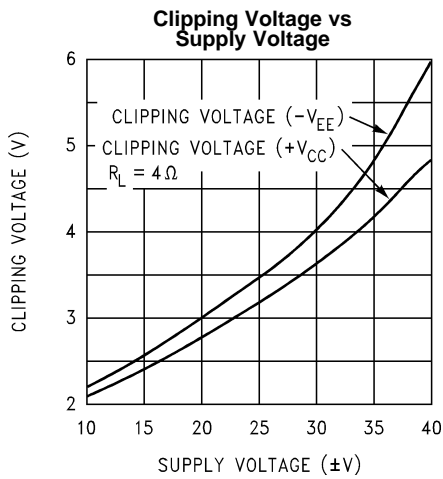

Figure 14.
- (1) All voltages are measured with respect to the GND pin (pin 7), unless otherwise specified.
- (2) Absolute Maximum Ratings indicate limits beyond which damage to the device may occur. Operating Ratings indicate conditions for which the device is functional. Electrical Characteristics state DC and AC electrical specifications under particular test conditions and specific performance limits. This assumes that the device is within the Operating Ratings. The typical value is a good indication of device performance.
- (3) Typicals are measured at 25°C and represent the parametric norm.
- (4) Limits are specified to AOQL (Average Outgoing Quality Level).
- (5) V^- must have at least -9V at its pin with reference to ground in order for the under-voltage protection circuitry to be disabled.
- (6) AC Electrical Test; refer to Test Circuit #2 - AC Electrical Test Circuit.
- (7) The feedback compensation network limits the bandwidth of the closed-loop response and so the slew rate will be reduced due to the high frequency roll-off. Without feedback compensation, the slew rate is typically larger.
- (8) DC Electrical Test; refer to Test Circuit #1- DC Electrical Test Circuit.
- (9) The output dropout voltage is the supply voltage minus the clipping voltage. Refer to Figure 14 in Typical Performance Characteristics.